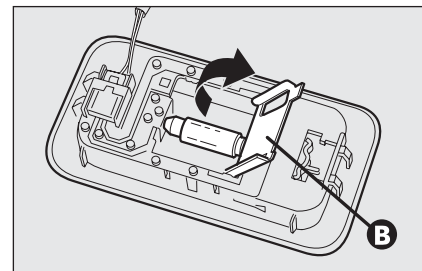

fig. 43
- ☐ open the protection cover **B-fig. 43** and replace the bulb releasing it from the side contacts making sure that the new bulb is correctly clamped between the contacts;